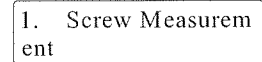

Figure 2-50 Special Measure
2) Press  key and come to the special measurement. (Figure 2-50).